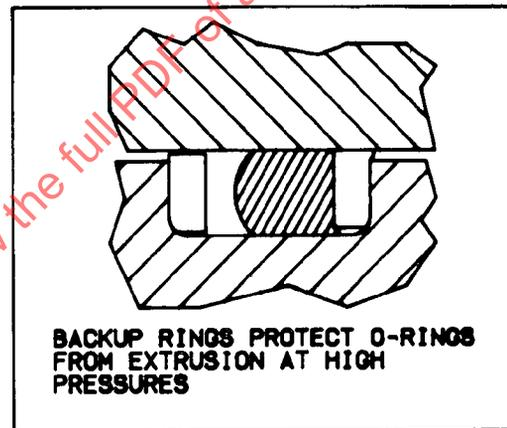

FIGURE 2
- 4.2 Backup Rings Prevent Extrusion: TFE backup rings used in conjunction with elastomeric O-ring seals are anti-extrusion devices which deform under pressure to maintain essentially zero diametral extrusion clearance for the O-ring and prevent its extrusion (Figure 2). They are effective for this purpose under both dynamic and static conditions. TFE backup rings are also effective in hostile environments, that may reduce the ability of the O-ring to resist extrusion as a result of temporary or permanent change in the physical properties of the elastomer.